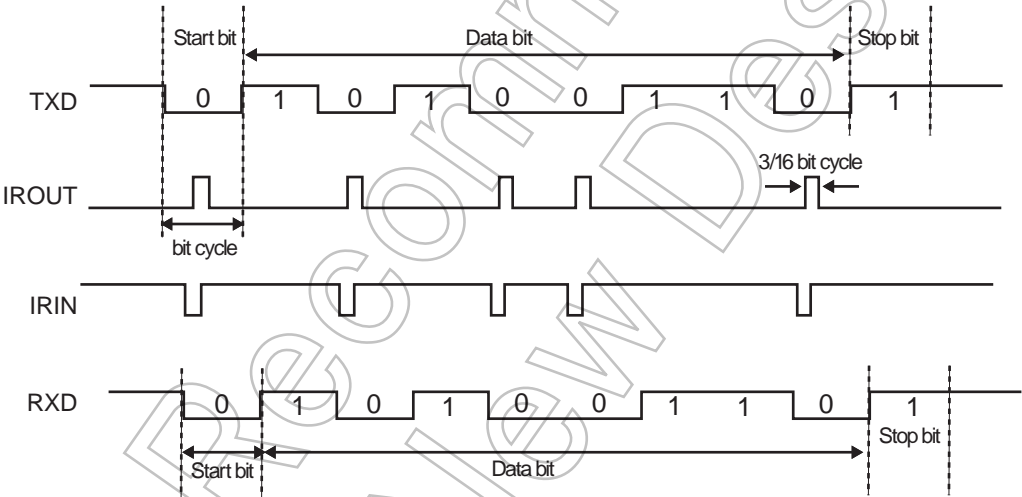

Figure 16-4 IrDA Data Modulation
**Note:** The transmit encoder output (IROUT) has the opposite polarity to the receive decoder input (IRIN). Please refer to Figure 16-4